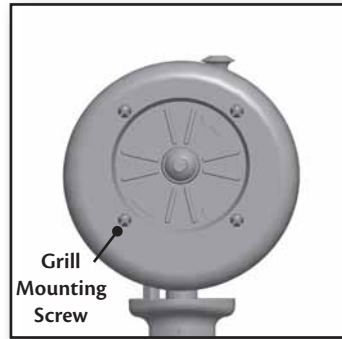

Figure 6
1. Remove the four rear grill mounting screws from the motor housing. Figure 6.